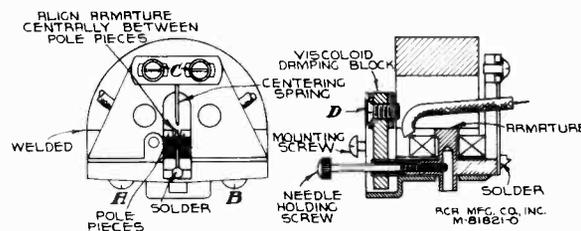

Figure 1—Details of Pickup
**Centering Armature**.—Refer to figure 1 showing the pickup inner structure. The armature is shown in its proper relation to the magnet pole pieces, i. e., exactly centered. Whenever this centering adjustment has been disturbed it will be necessary to remove the pickup mechanism from the tone arm by removing the needle holding screw and the two mounting screws from the front of the tone arm, holding the pickup assembly to keep it from dropping. Unsolder the two leads from the lugs on the terminal board at the rear of the pickup. Insert a small rod or nail into the armature needle hole and replace the needle holding screw, tightening it to hold the rod securely. If the armature clamping screws A and B have not been disturbed, screws C should be loosened which will permit the armature to be moved from side to side, the rod acting as a lever to perform this operation. Proper adjustment is obtained when the armature is moved to the